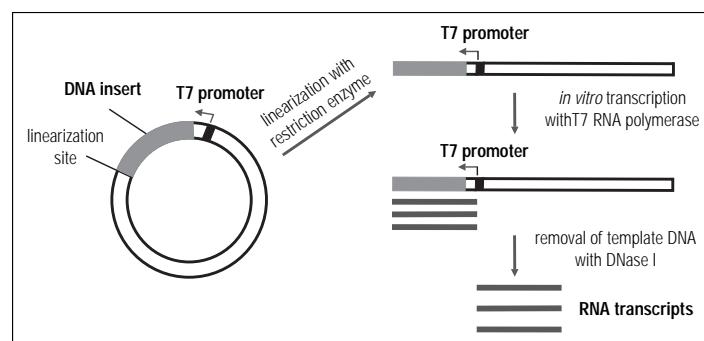

Fig. 2. *In vitro* transcription from linearized plasmid template.
To produce RNA transcripts of a defined length, plasmid DNA is linearized by restriction digestion downstream of the insert to be transcribed (Fig.2). Restriction enzymes which generate blunt ends or 5'-overhangs are preferred. 3'-overhangs have been reported to generate spurious transcripts (1) and generally should be avoided. Otherwise 3'-overhangs can be blunted by Klenow Fragment (#EP0051) or T4 DNA Polymerase (#EP0061) prior to transcription.